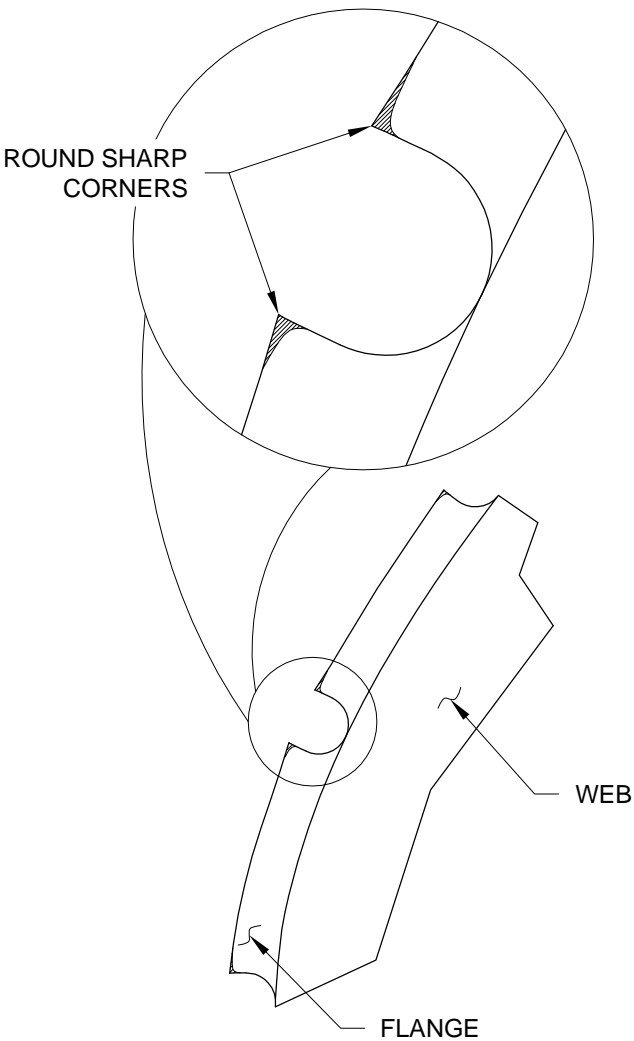

FIGURE 1: ROUNDING FLANGES
Step 1: Corners of flanges on curved portions of formed parts may be faceted. Round the facets on the bulkhead frames as shown in Figure 1 to ensure the skin will fit smoothly over the bulkheads.